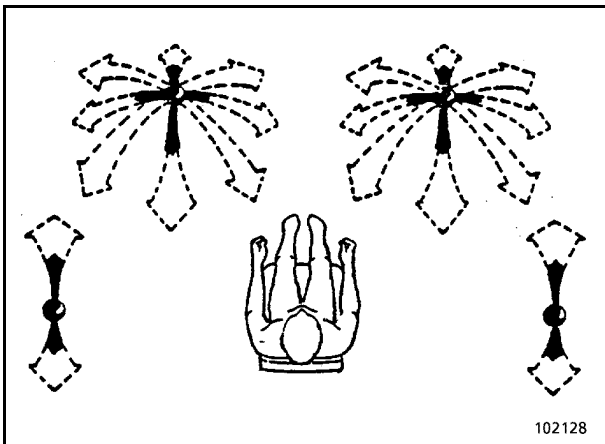

Fig. 3-64:
- Shift both control levers repeatedly into all directions (Fig. 3-64:).